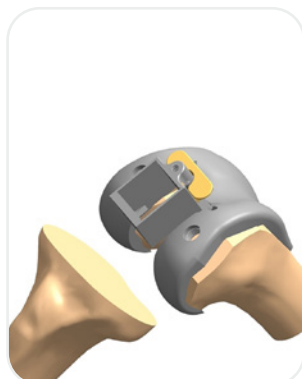

Figure 43
5. For Posterior-Stabilized femorals, insert the appropriate size Housing Resection Collet. Attach the Collet to the femoral trial by sliding the Housing Collet (anterior to posterior) into the slots on the distal face of the femoral trial (**Figure 43**).